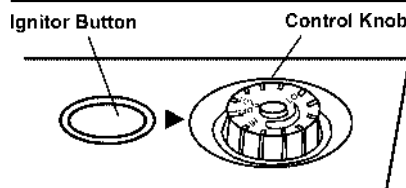

Figure 19 - Control Knob In The OFF Position
4. Wait five(5) minutes to clear out any gas. Then smell for gas, including near the floor. If you smell gas, STOP! Follow "B" in the safety information on the side of heater. If you don't smell gas, go to the next step.
5. Turn control knob counterclockwise to the PILOT position. Press in control knob for five(5) seconds. (see Figure 19).
**NOTE:** If pilot goes out, repeat steps 3 through 7. This heater has a safety interlock system. Wait one(1) minute before lighting pilot again.
8. Turn control knob counterclockwise to desired heating level. The main burner should light. Set control knob to any heat level between HI and LO. (see Figure 19)